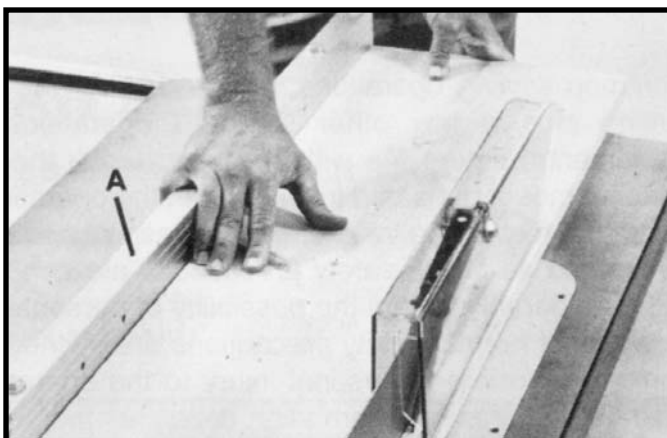

Fig. 61
Ripping is the operation of making a lengthwise cut through a board, as shown in Fig. 61, and the rip fence (A) is used to position and guide the work. One edge of the work rides against the rip fence while the flat side of the board rests on the table. Since the work is pushed along the fence, it must have a straight edge and make solid contact with the table. The saw blade guard must be used. The guard has anti-kickback fingers to prevent kickback and a splitter to prevent the saw kerf from closing and binding the blade. Make sure rip fence is securely locked before operating the saw.
1. Start the motor and advance the work, holding it down and against the fence. Never stand in the line of the saw cut when ripping. Hold the work with both hands and push it along the fence and into the saw blade as shown in Fig. 61. The work can then be fed through the saw blade with one or two hands. After the work is beyond the saw blade and anti-kickback fingers, the hand is removed from the work. When this is done the work will either stay on the table, tilt up slightly and be caught by the end of the rear guard, or slide off the table to the floor. Alternately, the feed can continue to the end of the table, after which the work is lifted and brought along the outside edge of the fence. The cut-off stock remains on the table and is not touched with the hands until the saw blade is stopped, unless it is a large piece allowing safe removal. When ripping boards longer than (3') three feet, it is recommended that a work support be used at the rear of the saw to keep the workpiece from falling off the saw table.